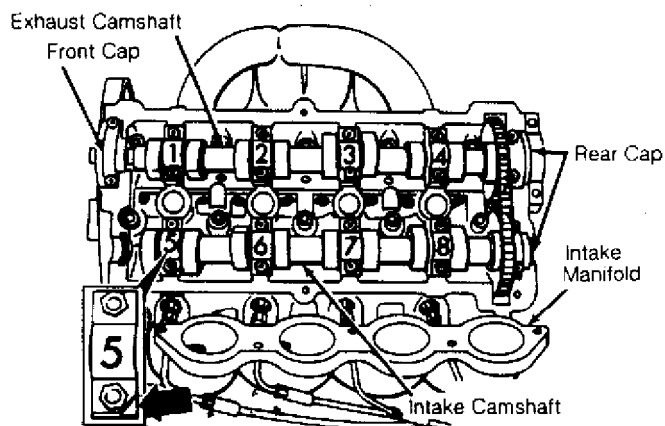

Fig. 13: Identifying Camshaft Bearing Caps (2.0L)
2) Remove intake camshaft bearing caps No. 5, 7 and rear cap evenly a little at a time. See Fig. 13. Loosen remaining intake camshaft bearing caps evenly a little at a time. Remove exhaust camshaft bearing caps No. 1, 3, front cap and rear cap evenly a little at a time. Loosen remaining exhaust camshaft bearing caps evenly a little at a time. Remove camshaft bearing caps. Lift both camshafts out of cylinder head together.
2) Install intake camshaft bearing caps No. 6 and 8 and tighten evenly a little at a time. See Fig. 13. Repeat procedure for remaining intake camshaft bearing caps. Install exhaust camshaft bearing caps No. 2 and 4. Tighten evenly a little at a time. Repeat procedure for remaining exhaust camshaft bearing caps. To complete installation, reverse removal procedure. Before starting engine, allow 30 minutes for cam followers to bleed down.